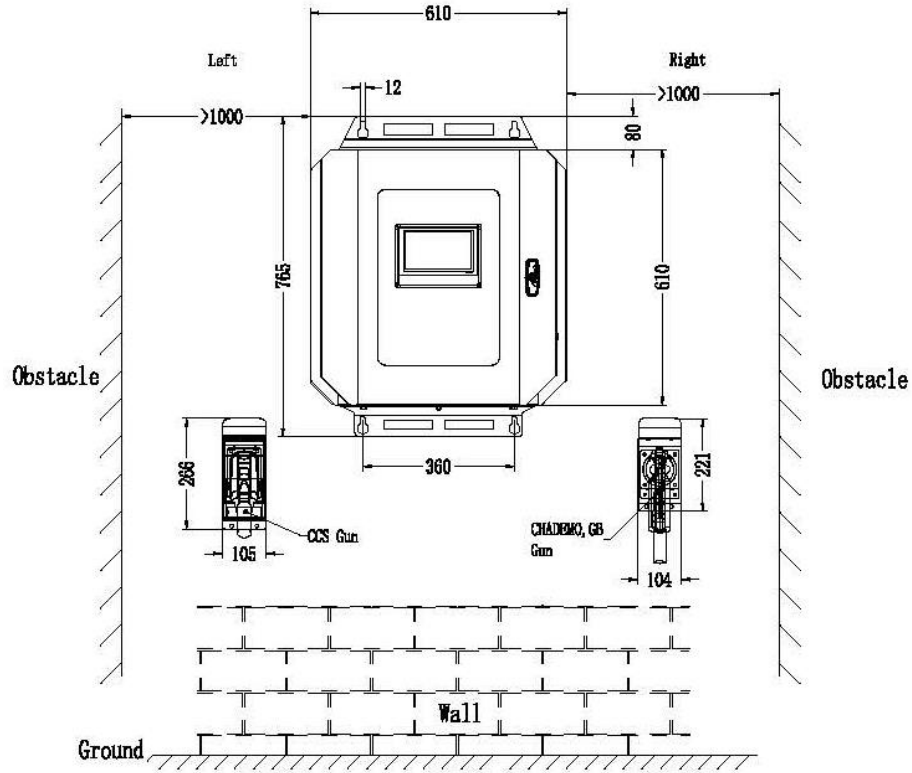

Figure 4: Drilling and Conduits layout
- The position of cable entrance is indicated by the red line in figure 4 below